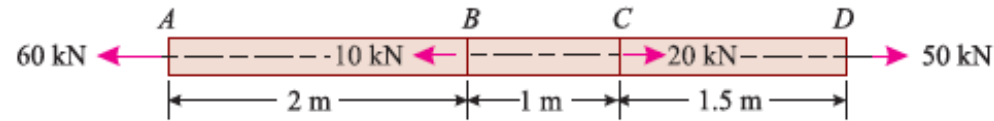

Fig. 2.10
**EXAMPLE 2.12.** A steel rod ABCD 4.5 m long and 25 mm in diameter is subjected to the forces as shown in Fig. 2.10. If the value of Young's modulus for the steel is 200 GPa, determine its deformation.